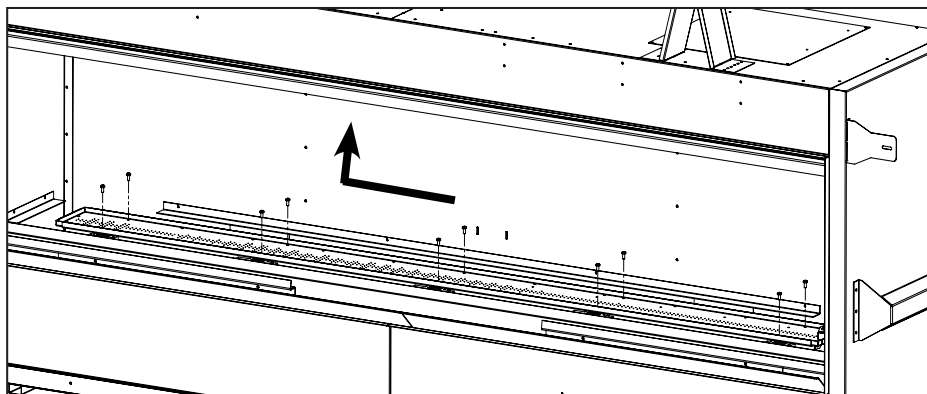

Figure 19. Removing Burner
6. Remove the ten T-20 screws securing the burner pan as shown in Figure 19; do NOT remove the other T-20 screws. Once the specified screws are removed slide burner to the left and lift out to remove.